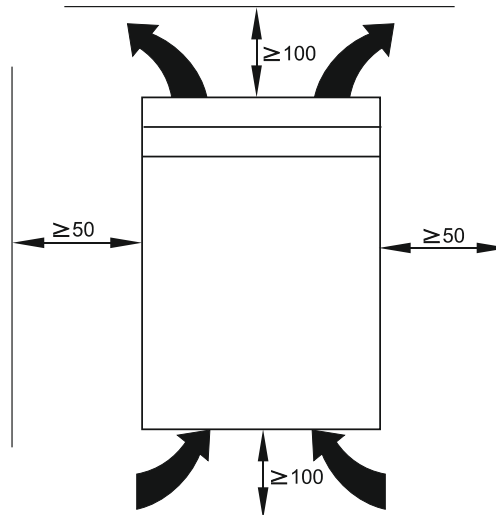

Figure 3.1 Minimum distance
- The minimum distance between inverter and surrounding walls or any other installed apparatuses should be in accordance with *Figure 3.1*: